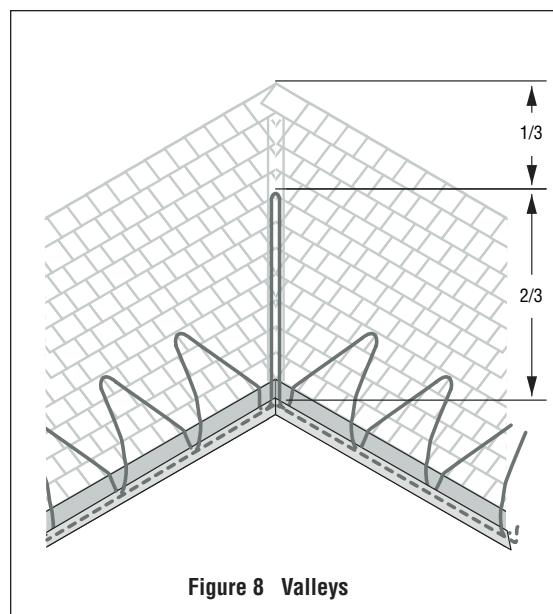

Figure 8 Valleys
- Trace two-thirds the way up each valley with a double run of heating cable as shown in Figure 8.